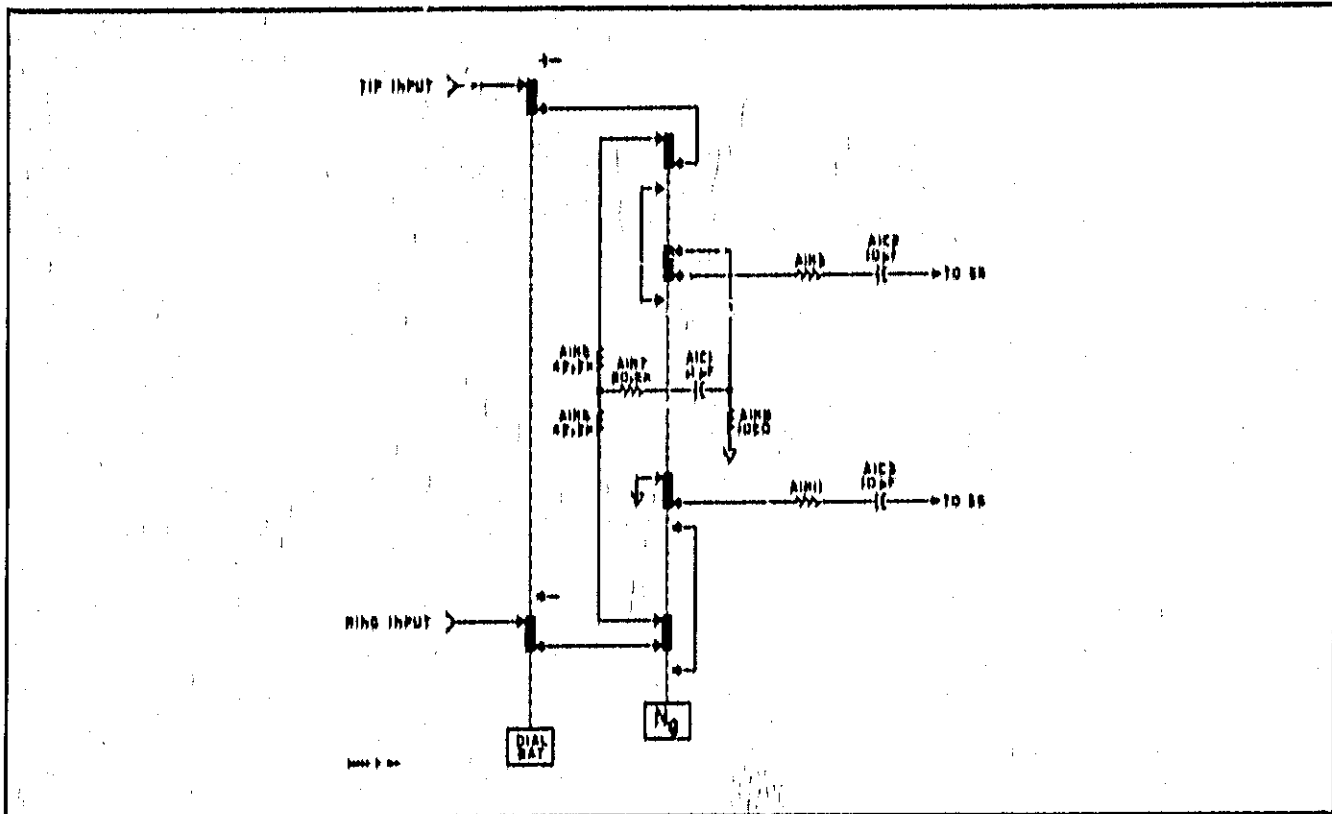

Figure 4-3. Simplified Ng Function
- c. Ng: (See Figure 4-3) The Ng pushbutton connects a 40dB attenuator across the balanced input terminals for longitudinal measurements. This attenuator consists of A1R5 thru A1R8 and A1C1. The output is taken from the junction of A1C1 and A1R8. This output is referenced to ground and applied to the voice frequency transformer A1T2.